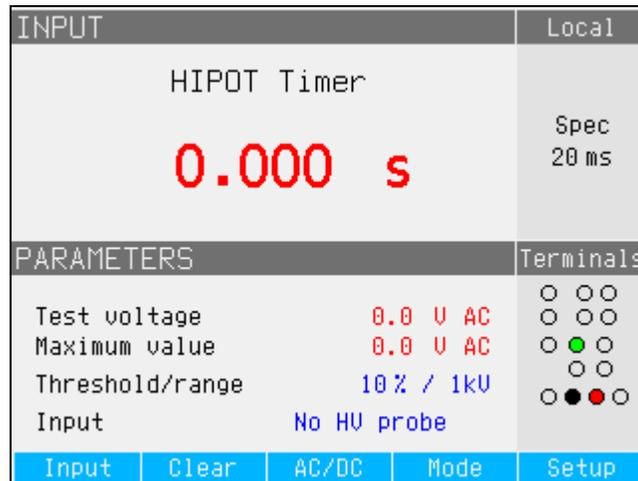

Figure 26. Multimeter Display with Hipot Timer Measurement
5. Activate the timer mode on the DUT when ready. See Figure 26.